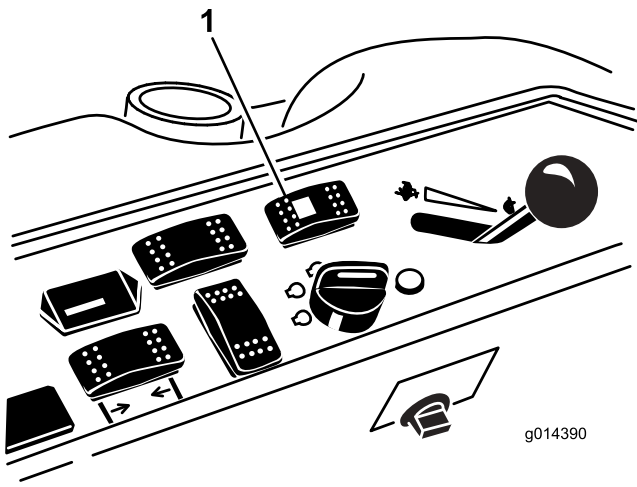

Figure 44
1. Press the steering-selector switch rearward 4-wheels steering position (Figure 44).